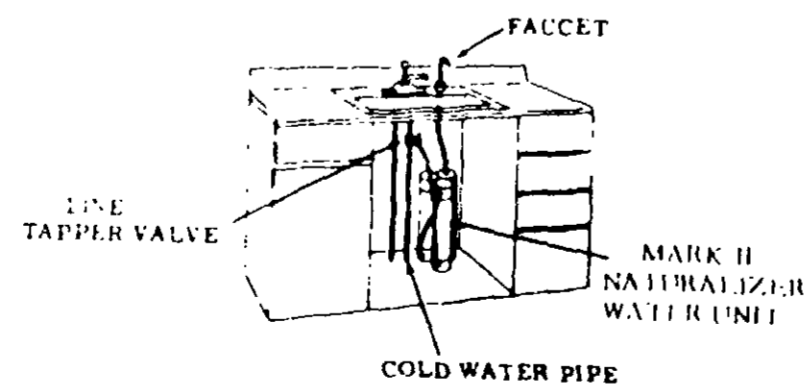

Figure 2
b. Determine where you want the faucet and unit installed. See figure 2. An accessory hole may be available for the faucet in some sinks. This would eliminate the need for drilling a new hole through the sink flange or counter top.